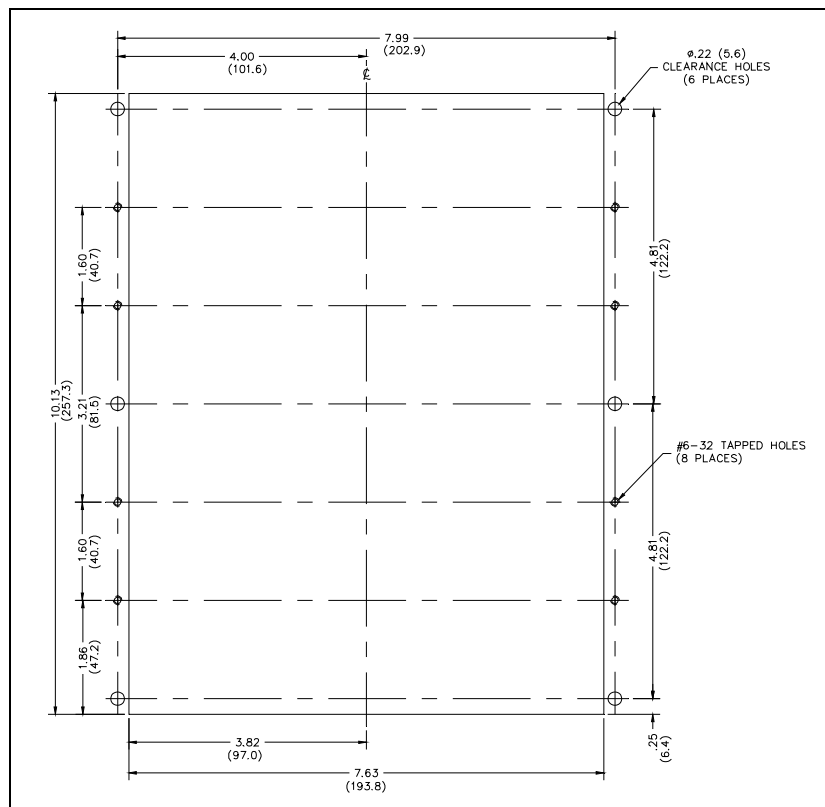

Figure 15. Cutout for Model 397-71x and 398-71x
2. Mount the back box to the structure using the appropriate hardware (see Figure 15 for the cutout dimensions).